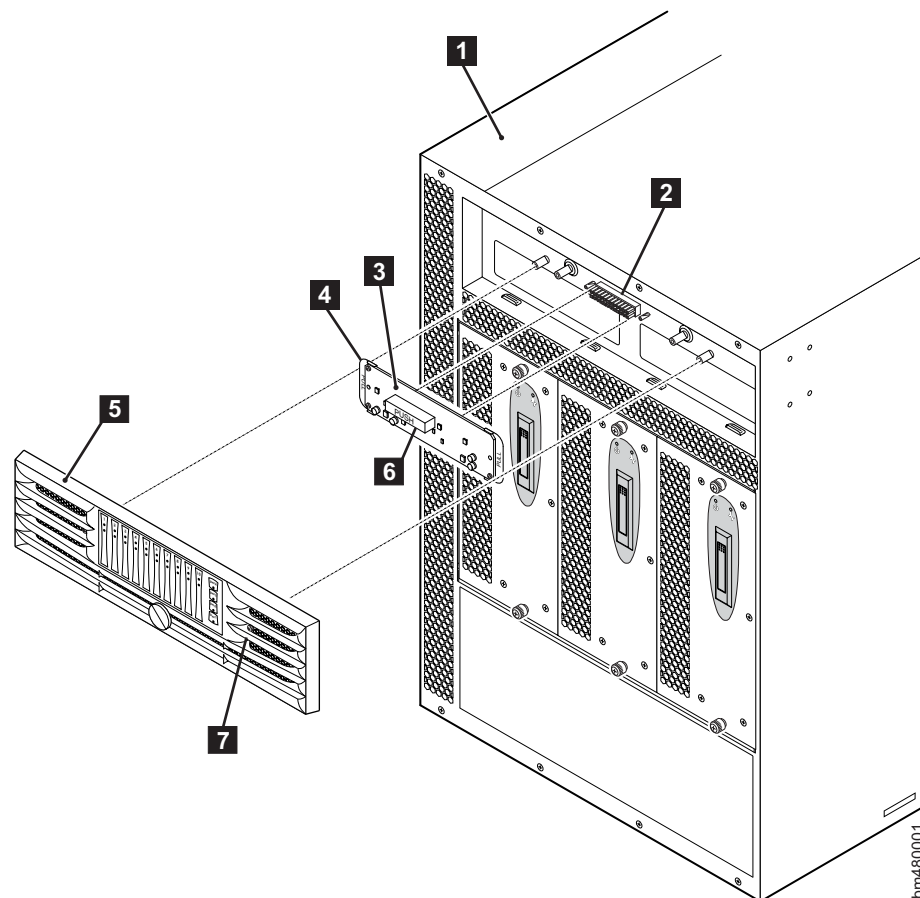

Figure 39. WWN bezel and card removal and replacement
The WWN card is located on the nonport side of the chassis underneath the WWN bezel. See Figure 39.
Figure 39 on page 79 shows the nonport side of the director, which contains the WWN bezel and card.
5. Wait until all the LEDs on the WWN bezel ( **5** in Figure 39 on page 79) turn off.
3. Align the connector on the card with the connector on the chassis ( **2** in Figure 39 on page 79). The connectors are keyed to ensure correct installation)
5. Orient the bezel on the chassis. See **5** in Figure 39 on page 79.